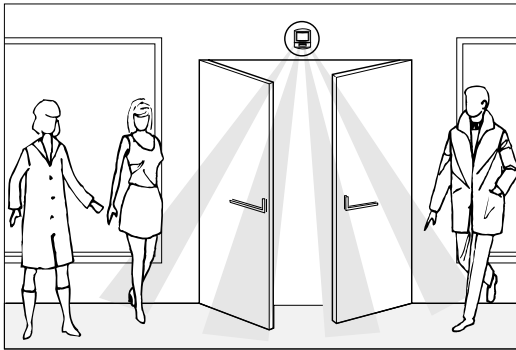

Figure 1—Using the 6179 in a request to exit application.
- INSTALLATION** A Sharpshooter may be used in the look-down mode (see Avoiding Sabotage Zones) to operate entry and exit doors (Figure 1). A special request-to-exit Sharpshooter (6179) is available for this application.